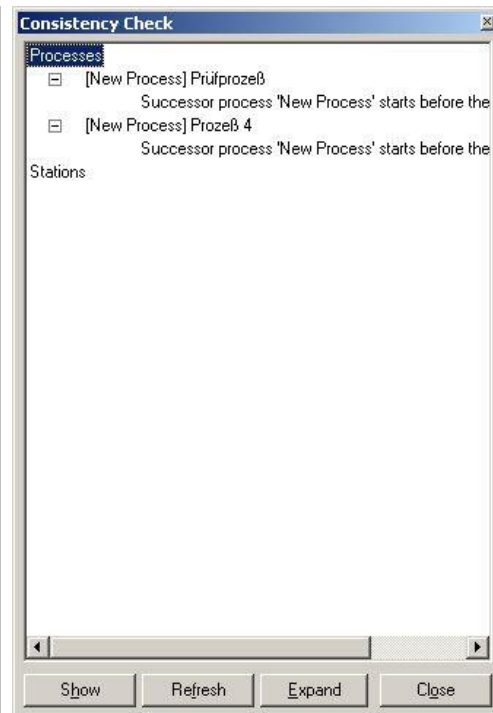

Figure 51: Consistency Test Dialog
This function is active in the standard configuration. If you deactivate **Show consistency check after doing an automatic balancing**, consistency checks will no longer be displayed after starting or re-starting the work load balancing. *Please refer to the Figure 51.*
In the Consistency Check dialog the consistency of a balancing process is checked. In case of a recalculation of a balancing process, Automatic Line Balancing will automatically execute the consistency check. *Please refer to the Figure 51.*
- 3) Alternatively, you can select a process by double-clicking on it to display it in both views. *Please refer to the Figure 51.*